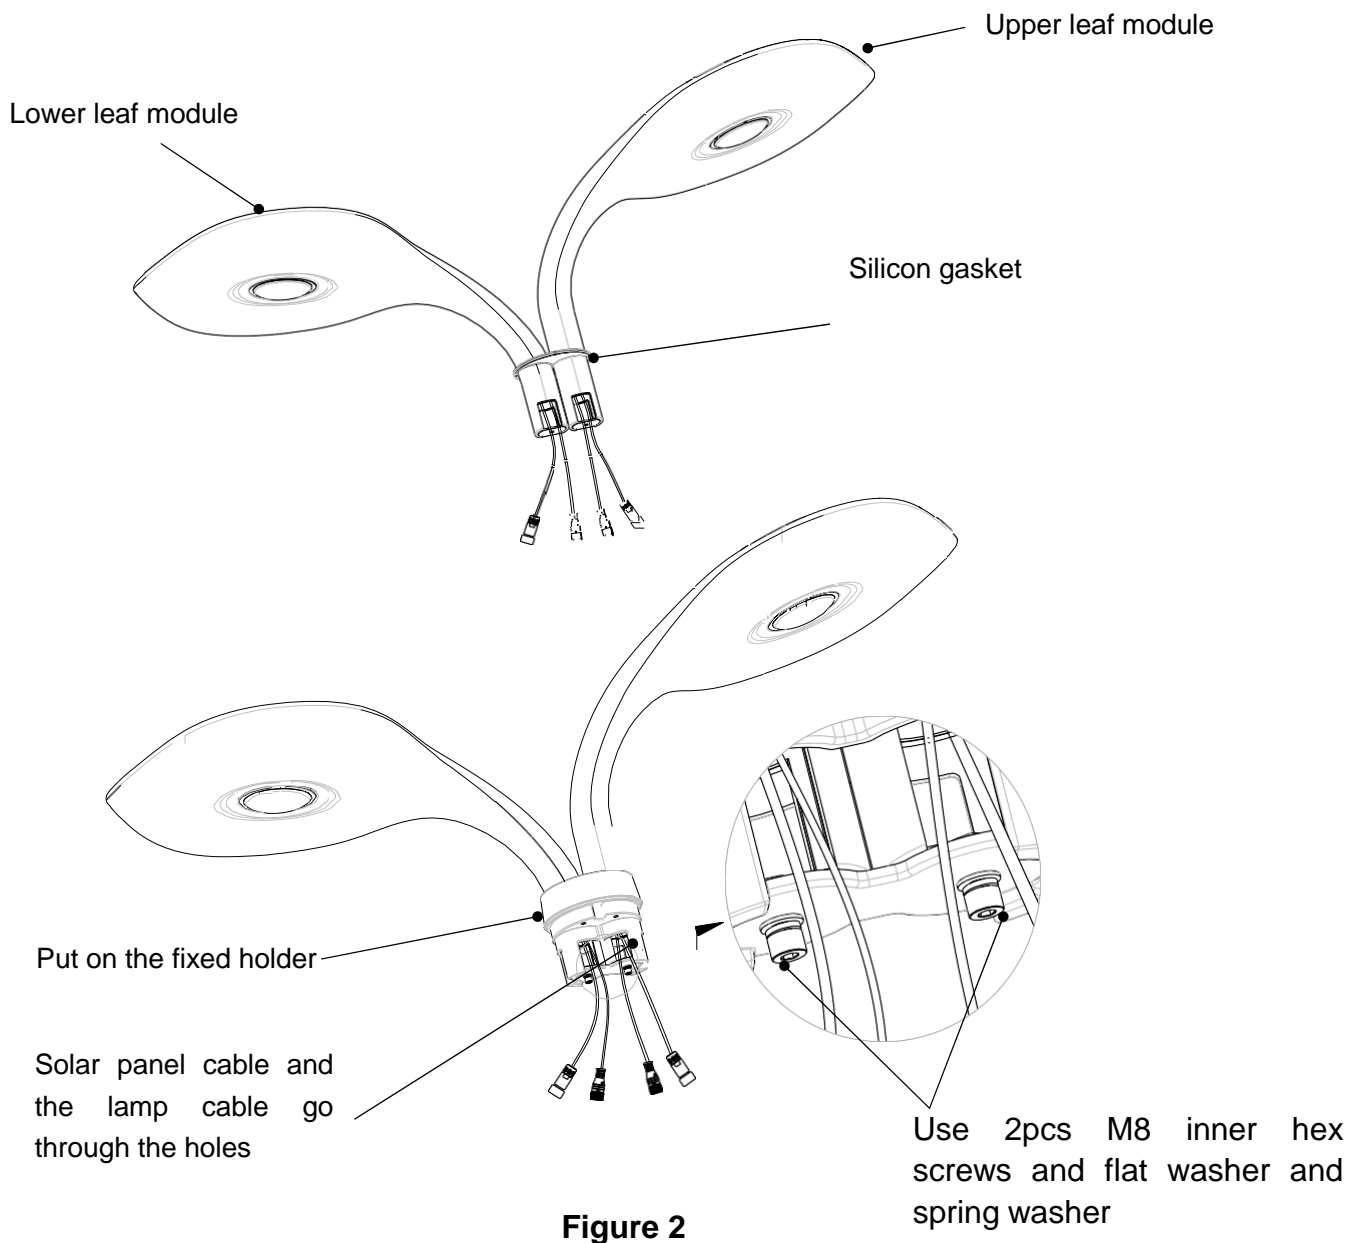

Figure 2
- ① It is appropriate to put the protection padding on the ground in order to stabilize the leaf placement interval.
- ② The silicon gaskets go through the upper leaf and lower leaf as requested (Note: the convex dot hole on the silicon gaskets go through the LOWER leaf), shown in Figure 2.
- ③ Use 2pcs M8 inner hex screws and flat washer and spring washer to locking fixed holder and leaf modules, as shown in Figure 2.